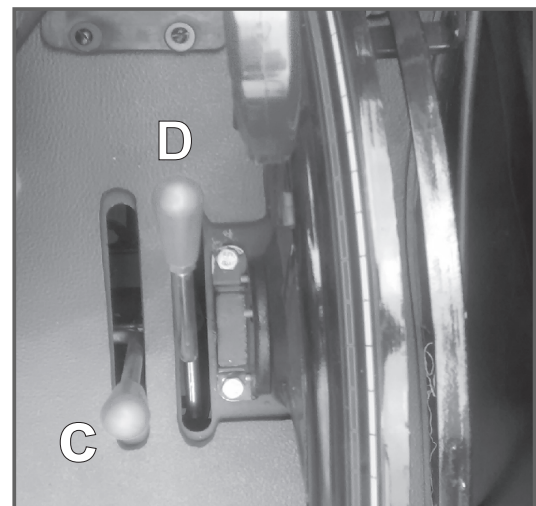

Fig. 4-42
Directional Control Valve (DCV) equipped is operated by two levers. Lever "C" (Fig. 4-42) is controlling Double Acting (DA) DCV and Lever "D" (Fig. 4-42) is controlling Convertible Double Acting (DA) Single Acting (SA) DCV.